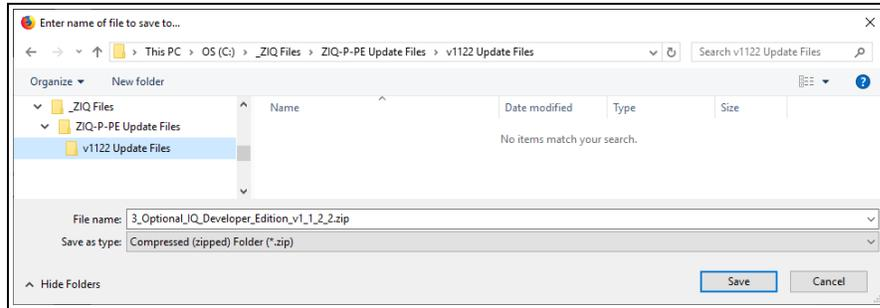

Figure 76: Enter name of file to save to dialog box
4. Click **OK**. The **Enter name of file to save to** dialog box opens. Figure 76